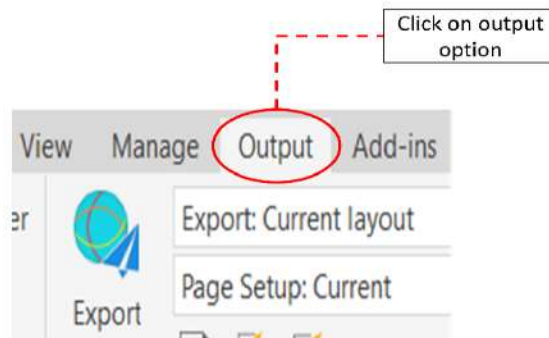

**Fig. 5.2:** Opening the created layout
Step 1: Begin by clicking on the "Layout 1" tab, located at the bottom of the drawing window (refer to Fig. 5.2). Upon doing this, you will observe a white paper, accompanied by an automatically created viewport. The various components of this layout are shown in Fig. 5.3.